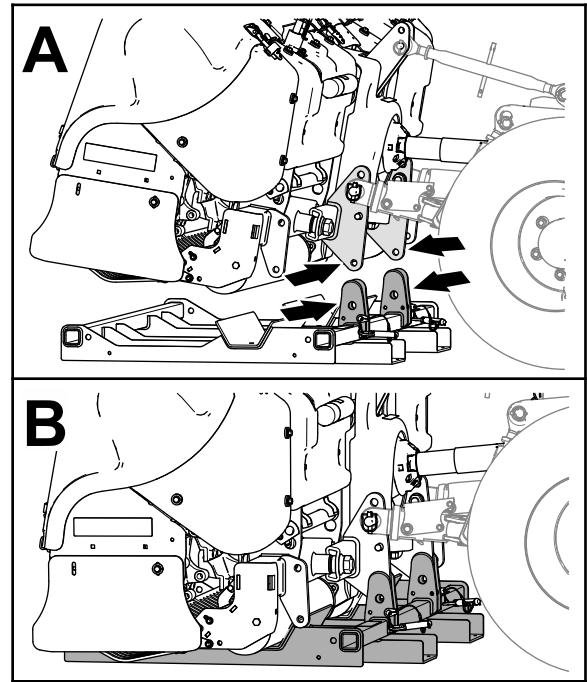

Figure 45
1. Align the support plates of the storage stand with the stand bracket on the hitch frame of the machine (Figure 45)
2. Lower the machine into the storage stand until the holes in the stand align with the holes in the stand bracket of the hitch (Figure 45).